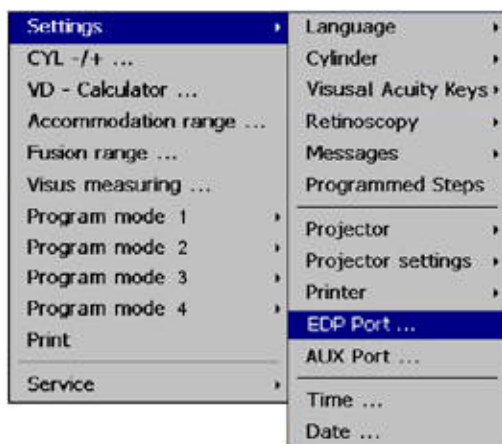

Figure IS-17 EDP Port Settings
4. Press  to access the settings menu and select the EDP Port from the scroll down menu. Refer to Figures IS-17 and IS-18.